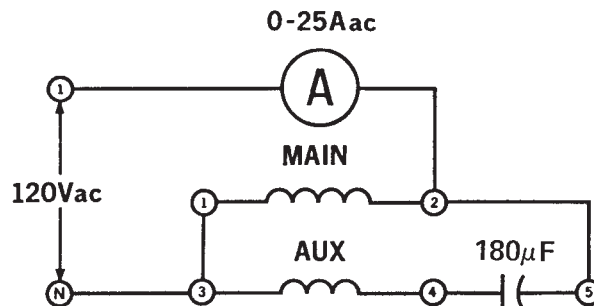

Figure 11-3.
- 4. a. Connect both windings in parallel, terminals 1 to 3 and 2 to 5, as shown in Figure 11-3.